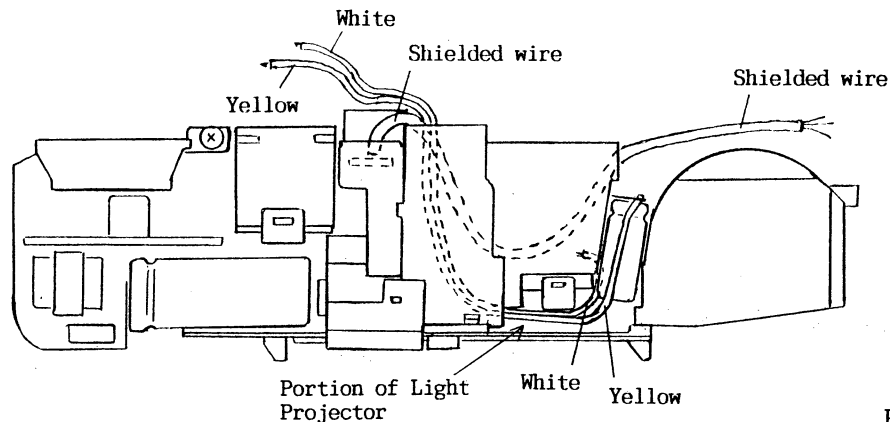

Fig.14
- a) When installing the Viewfinder Ass'y, lead the AF lead wires (yellow and white) under the Viewfinder between the portion of Light Projector and the Light Sensor as shown in Fig.14.
- b) Lead the shielded wire under the Viewfinder as shown in Fig.14 while installing the Viewfinder Ass'y.